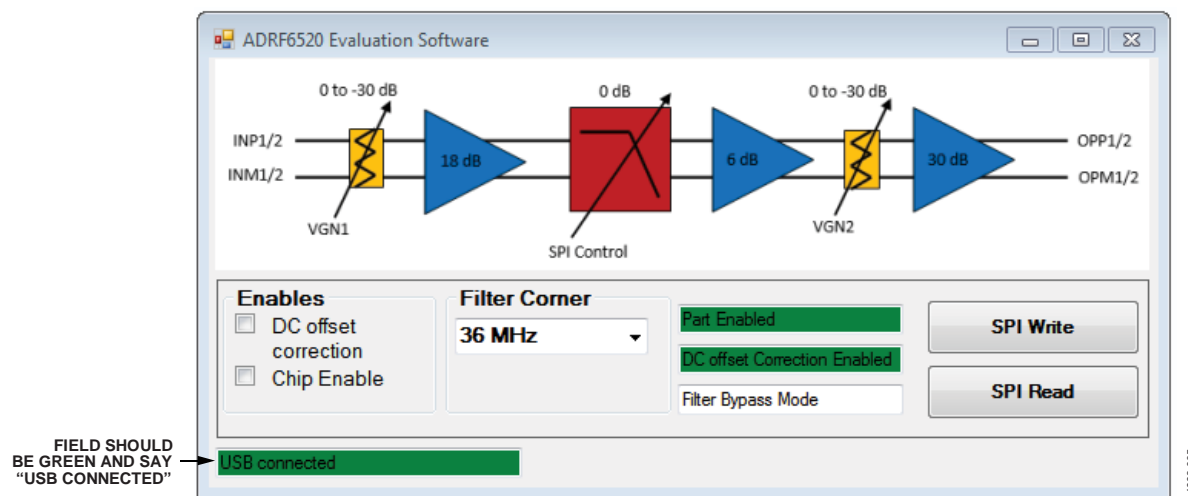

Figure 5. Status Bar in the ADRF6520 Evaluation Software GUI
9. Turn on the radio frequency (RF) output of the signal generator.
10. Run the ADRF6520 Evaluation Software to launch the GUI. If the PC is connected to the SDP-S board via the USB cable and the SDP-S board is connected to the ADRF6520-EVALZ board, the status bar reads **USB Connected** (see Figure 5).